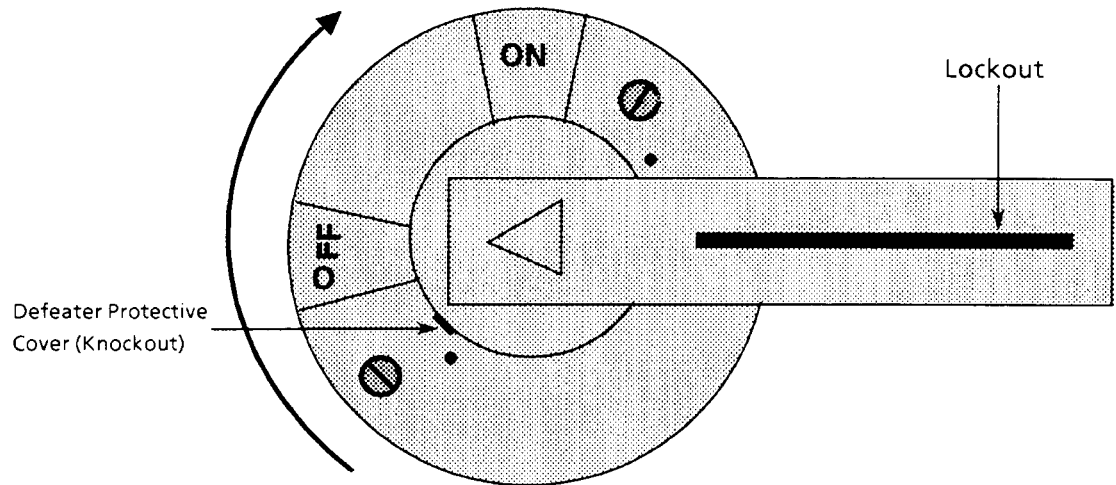

Figure 3-10. A Typical Bulletin 1352 Disconnect Switch Operator
- 3-2.3.2 Disconnect** - The externally operated Disconnect switch (Figure 3-10) allows the drive to be disconnected from the AC power supply before gaining access to the cabinet internals. The handle is interlocked to guard against entry to the enclosure while the switch is engaged. If desired, the disconnect can also be padlocked to guard against unauthorized entry.